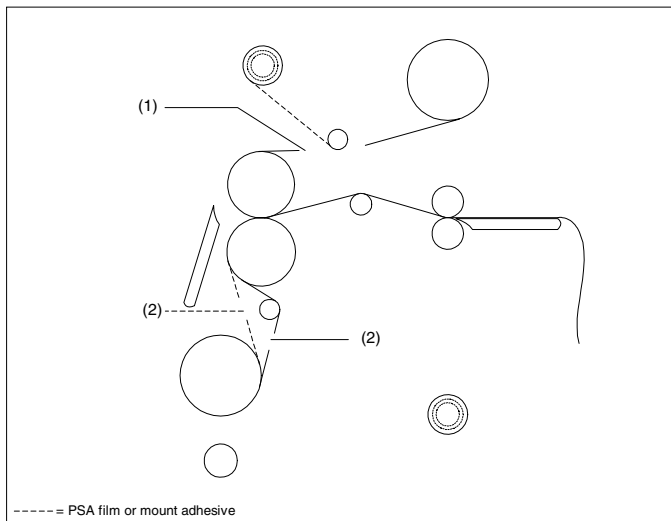

Fig. 30
1. Cut (1) remaining top film web between the idler bar and heat roller. Cut (2) the film web between the lower film supply and the idler bar (Figure 30).